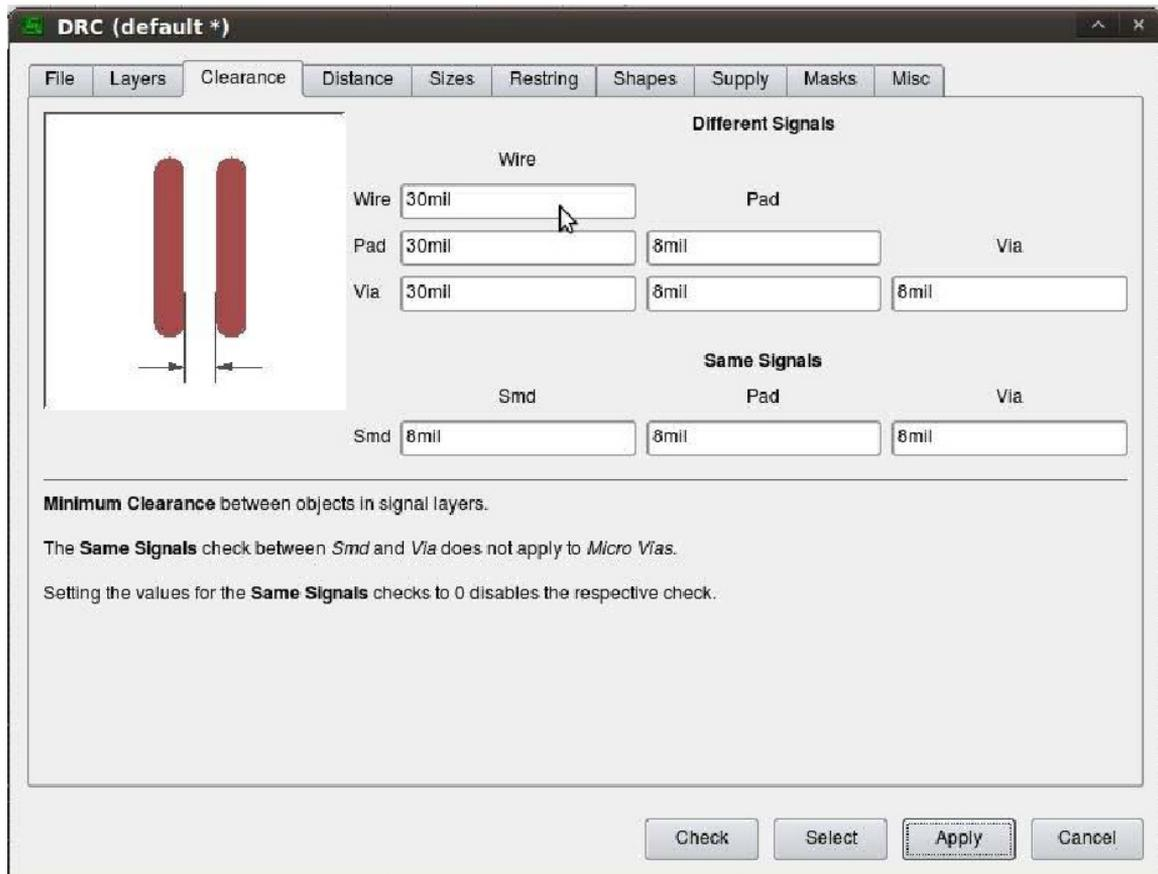

Figure 6-13. Changing the clearances enables more room between traces and the Ground plane.
7. *Set clearances:* Now you need to set the clearances of the Ground plane so the traces are not too close together. Changing the wire clearance makes transferring the design to the copper PCB much easier. Select Tools → DRC from the menu and then go to the Clearance tab. From there, change the first three boxes (under the Wire column) from 8mm to 30mm as shown in Figure 6-13.